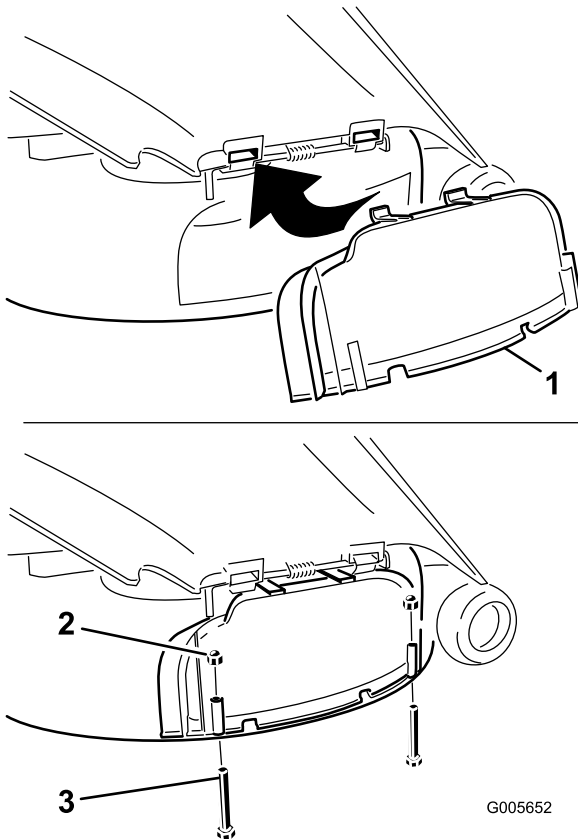

Figure 25
- Rotate the discharge cover down over the opening, and onto the lower lip of the mower (Figure 25).
- Secure the discharge cover to the lower lip of the mower with 2 bolts (1/4 x 2-1/2 inches) and 2 cap nuts (1/4 inch) as shown in Figure 25.